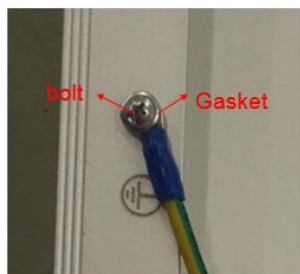

Figure 9: Toothed washer nut
1. Use the marked grounding holes (5.5mm) to ground the anodized frame. All nuts, bolts, and gaskets are type M5 and should be made of stainless steel (See Figure 9).